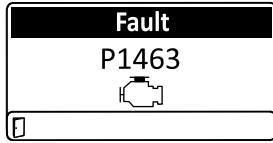

Figura 54
- Engine warning (Avertisment motor) (Figura 54)